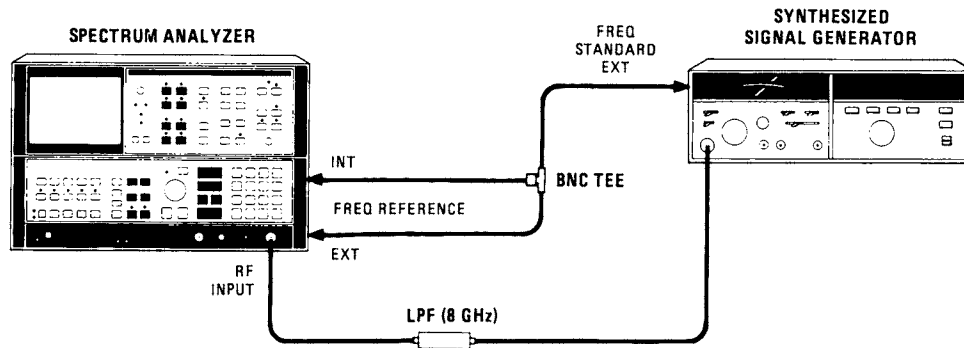

Figure 4-37. Harmonic Distortion Test Setup (2 to 22 GHz)
16. Connect equipment as shown in Figure 4-37. Set FREQ REFERENCE switch on 8566A rear panel to INT and FREQ STANDARD switch on 8672A rear panel to EXT.